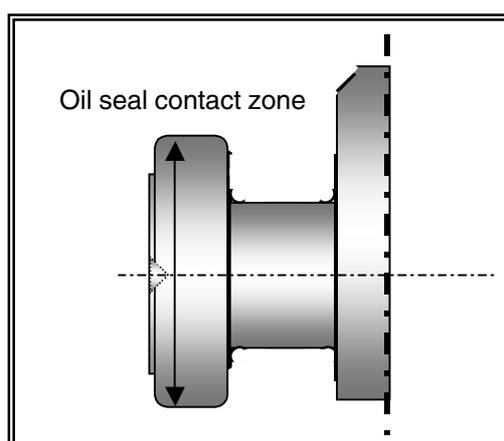

Fig.9-7
- Check oil seal journal flange where the Flywheel end oil seal fits for any noticeable grooving / wear, on the oil seal contact zone. Fig.9-7. If groove is deep it may cause oil leakage between the oil seal, recondition the journal.